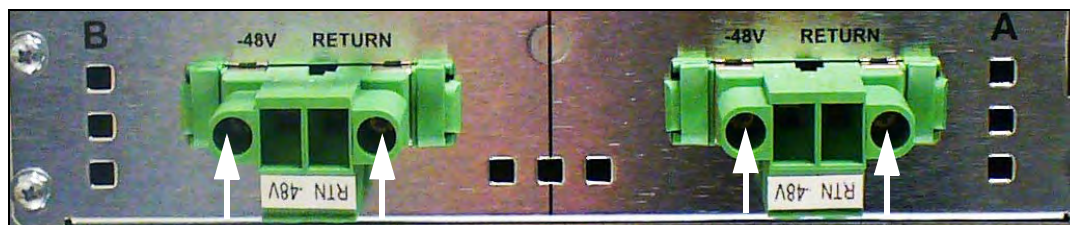

Figure 2.24 - G10 DC Pluggable Screw Terminals
3. Loosen the screws on both sides of the pluggable screw terminals on the rear of the G10 chassis and remove the pluggable screw terminals (Figure 2.24).